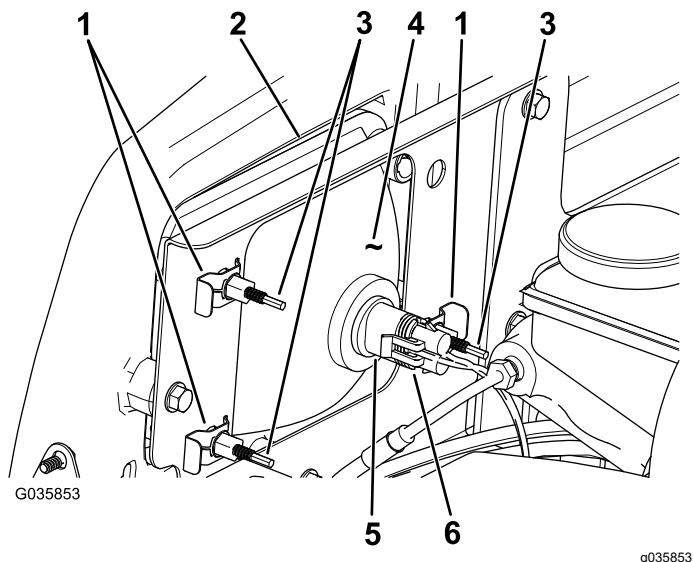

Figure 45
- Disconnect the electrical connector for the harness from the connector of the lamp assembly (Figure 45).
- Remove the speed clips that secure the headlight to the headlight bracket (Figure 45).
- Remove the headlight assembly by moving it forward through the opening in the front bumper (Figure 45).
- Install the new headlight through the opening in the bumper (Figure 45).
- Connect the electrical connector for the harness to the connector of the lamp assembly (Figure 45).
- At the back of the headlight assembly, rotate adjustment screws (Figure 45) to pivot the headlight assembly and align the position of the cast beam.